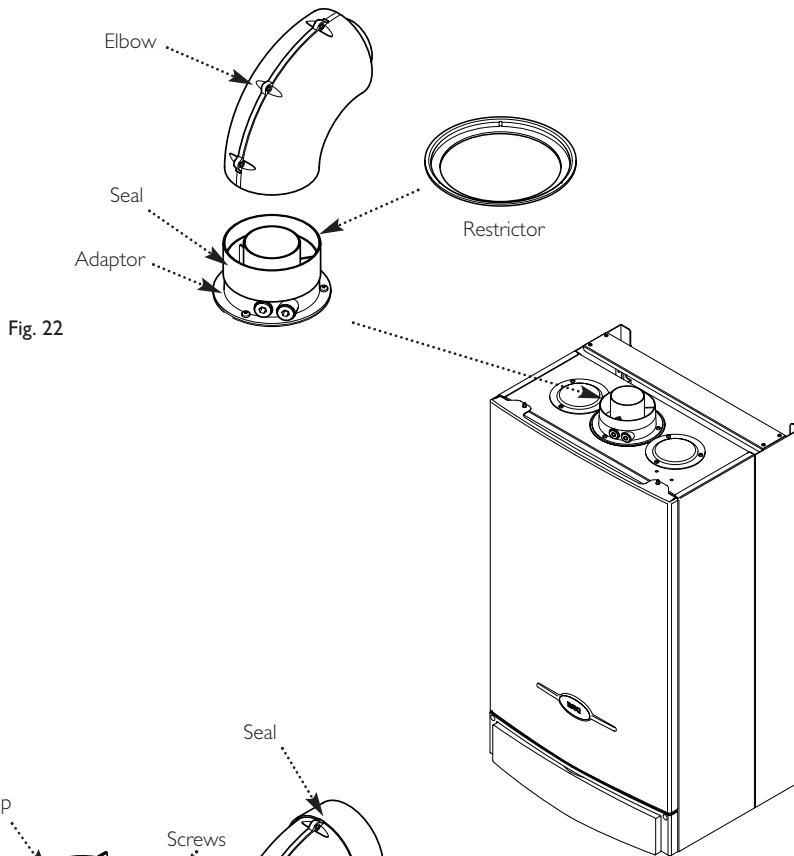

Fig. 22
**IMPORTANT:** If the equivalent flue length is greater than 1.5m the restrictor **MUST** be removed from the adaptor (Fig. 22).
8. Take one of the rubber seals and position it on the boiler flue adaptor. Engage the flue elbow on the adaptor and pull the sleeve up so that it equally covers the joint (Fig. 22).